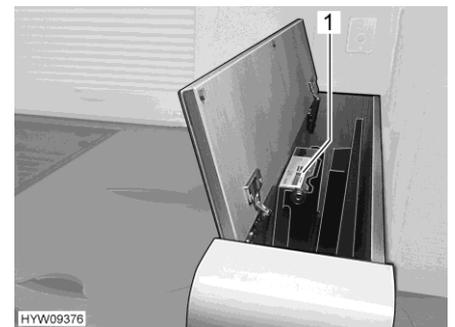

Fig. 92 Flat screen (lowered)
- Manually lowerable flat screen: Lightly press the lifting mechanism (Fig. 92,1) downwards to release the spring. The flat screen automatically moves upwards.